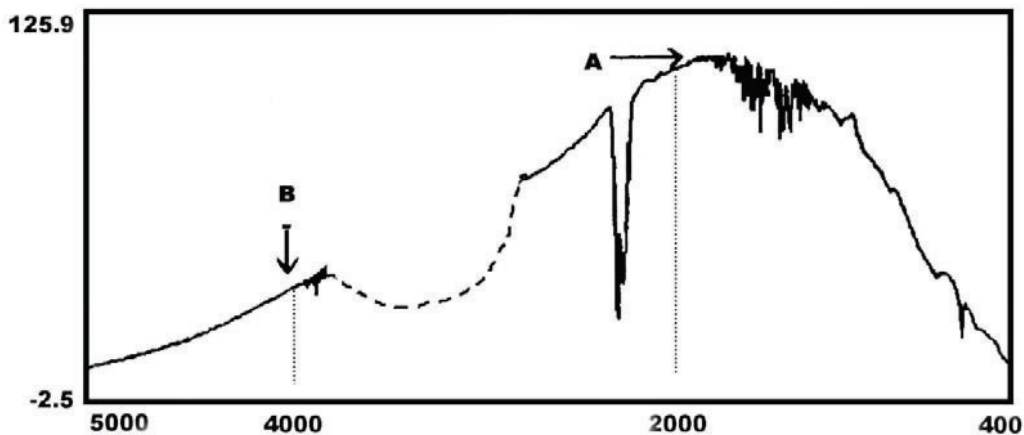

Figure 79. Problem Background Spectrum
4. The spectrum in Figure 79 has a dip in the region around 3000 to 3500cm-1. This indicates that there is a chemical coating on the gas cell. It needs to be cleaned or replaced.